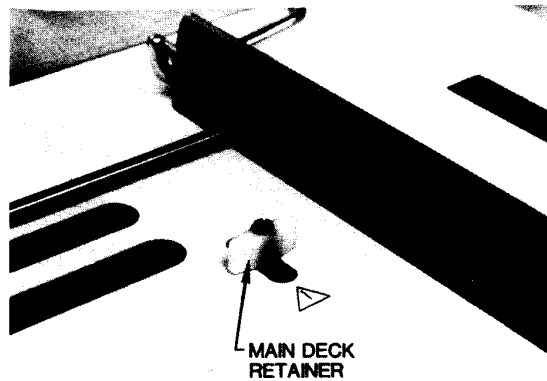
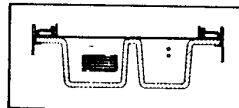

FIGURE 4.4 REMOVAL OF MAIN DECK
FIGURE 4.7 INSTALLATION OF MAIN DECK AND HOOD SEAT GASKET
5. REMOVE MAIN DECK. Rotate the Main Deck Retainer (Figure 4.4) parallel with the slot, then lift out the Main Deck and Hood Seat Gasket.
3. INSTALL THE MAIN DECK AND HOOD SEAT GASKET into the Base Assembly as shown in Figure 4.7. Rotate the Main Deck Retainer (Figure 4.4) to secure the deck.